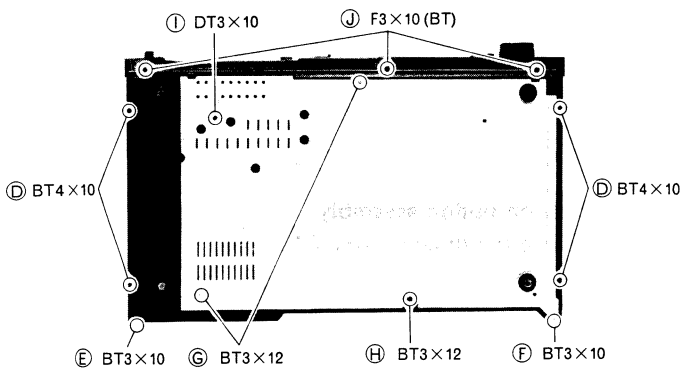

Fig. 3
Remove the seven screws [H (Fig. 3), O, P] and jack holder (Q).